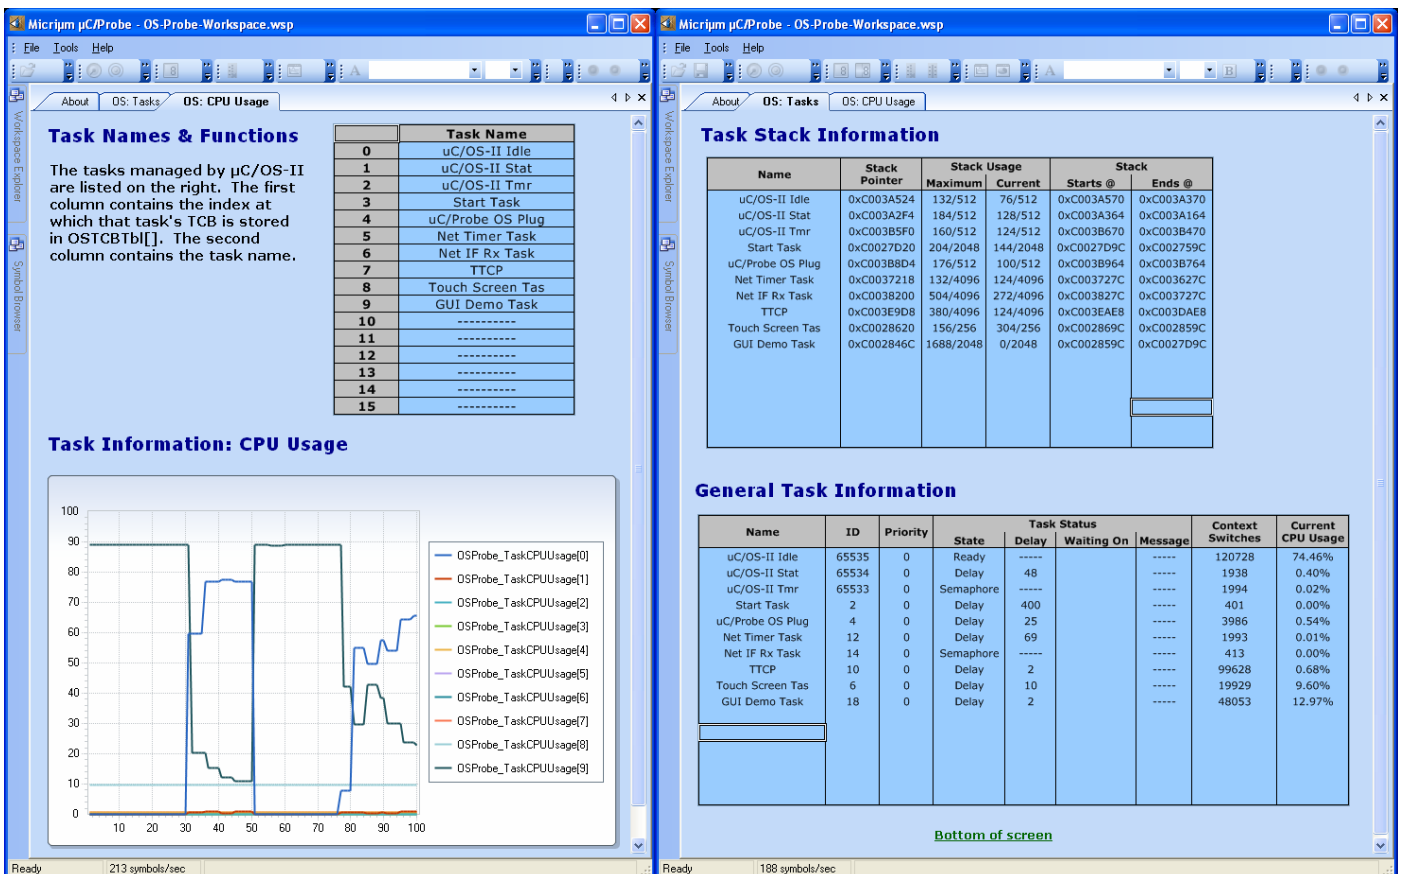

Figure 6-3. μ C/Probe Run-Time: μ C/OS-II Task Information
6. **Start Running.** You should now be ready to run **µC/Probe**. Just press the run button () to see the variables in the open data screens update. Figure 6-3 displays two screens in the **µC/OS-II** workspace which display detailed information about each task's state.